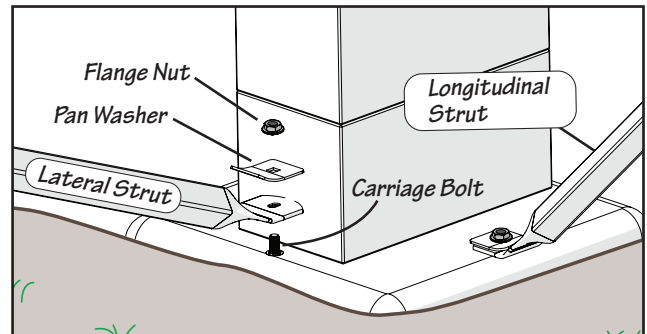

Fig. 4-3
- Slide a pan washer over the carriage bolt/longitudinal strut, install a flange nut over the carriage bolt as shown in figure 4-3.
- Slide a pan washer over the carriage bolt/lateral strut, install a flange nut over the carriage bolt as shown right in Fig. 4-3.